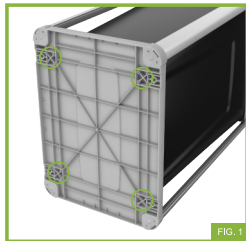

FIG. 1
- 1 Remove the lid and Flip the Mosaic station on it's side so you can easily access the bottom side of the base. Casters will be installed onto the circled locations. **(FIG. 1)**